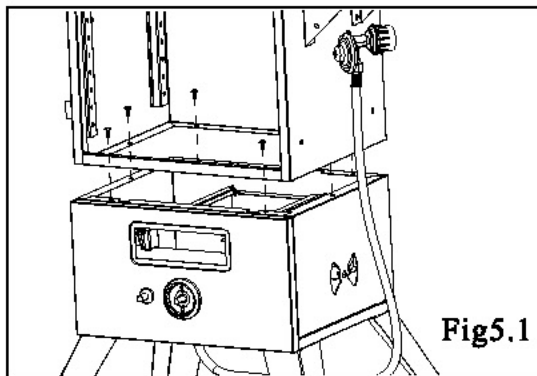

Fig5.1
Procedure: Attach the smoker cabinet and lower cabinet with (6)#10-24 x 1/2 bolts. Fig5.1.